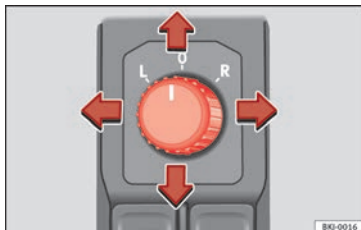

Fig. 150 Exterior mirror controls.
1. Turn knob » **Fig. 150** to position **L** (left exterior mirror).
- Turn the control » **Fig. 150** to position to fold in the exterior mirrors. You should always fold in the exterior mirrors if you are driving through an automatic car wash. This will help prevent damage.